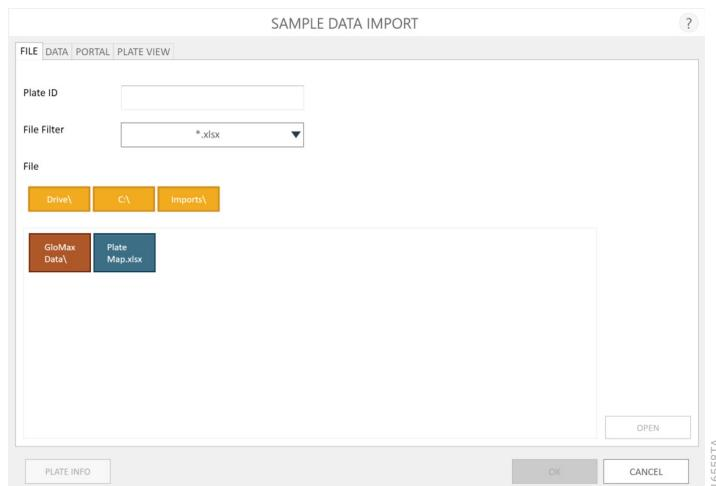

Figure 42. 'Sample Data Import' screen. First screen shown when importing a plate map into the GloMax® Software.
3. Tap the **Import** button located on the right side of the 'Protocol-specific' screen (Figure 41) to display the 'Sample Data Import' screen (Figure 42).